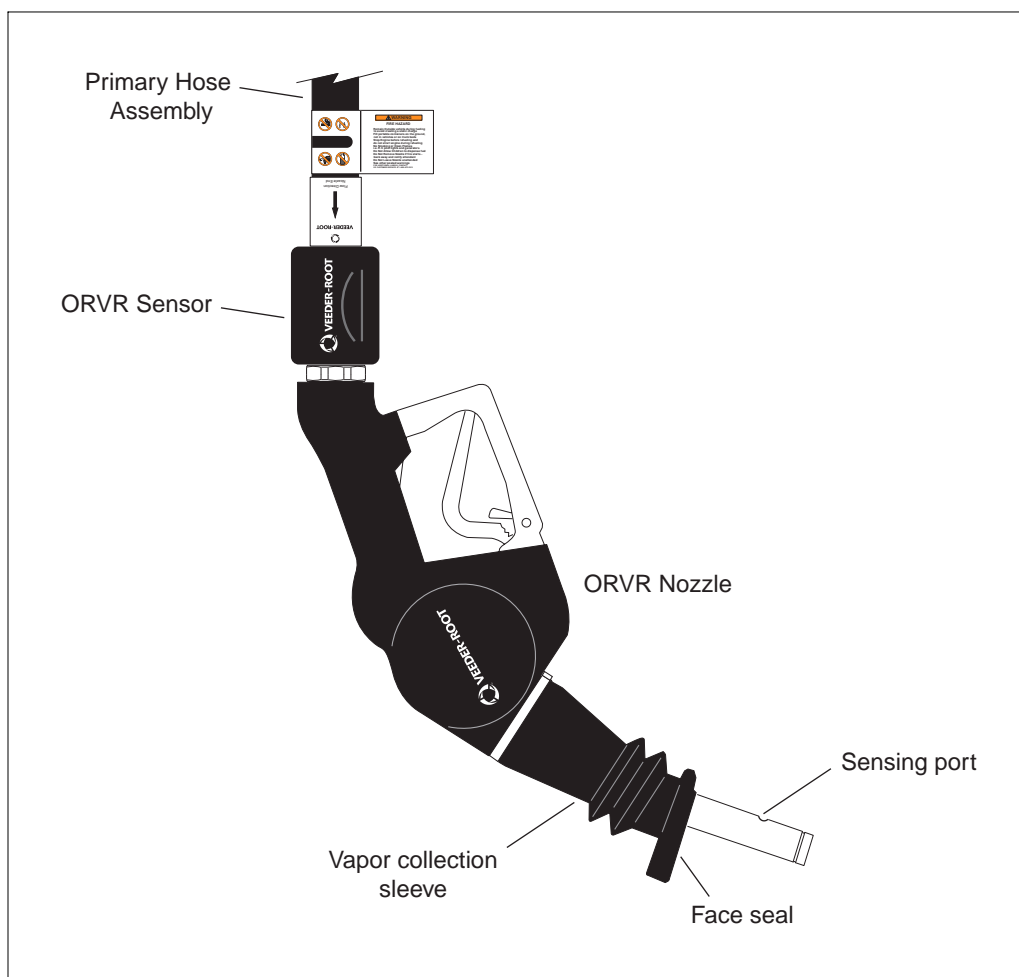

Figure 2. ORVR Sensor and Nozzle
Figure 2 illustrates additional nozzle features.
- The flow rate of the nozzle may be above the maximum allowed. United States regulations require flow rates not to exceed 10 gpm (37.8 lpm). A high flow rate may cause the sensing port to be prematurely covered with liquid (see Figure 2 on page 4).
- The nozzle's sensing port (see Figure 2 on page 4) may contain debris or foreign material.
Solution: Make sure the nozzle is properly inserted in fill pipe. Liquid must cover the sensing port on the underside of the spout for the nozzle to automatically shut off. (see Figure 2 on page 4).
Solution: Check and replace swivel nut o-ring (Figure 2 on page 4).